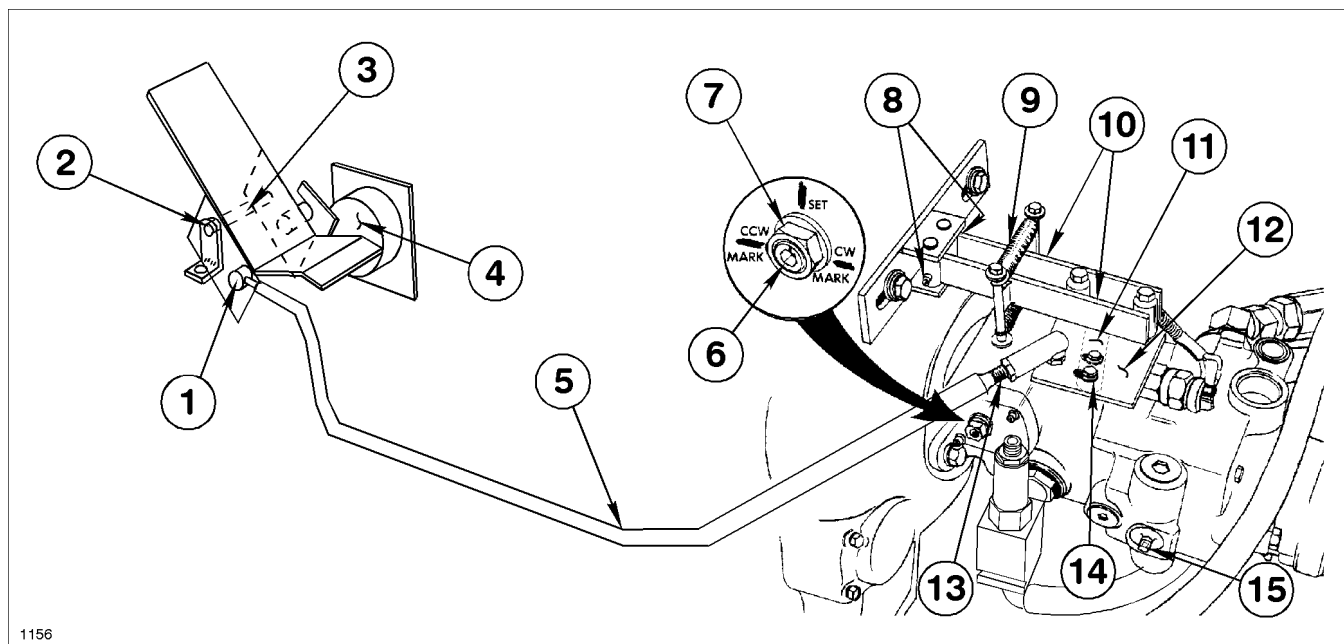

Figure 43
LINKAGE MAINTENANCE (FIG. 43)
It is very important that the foot pedal operate freely and return positively to the NEUTRAL or CENTERED position. Periodic maintenance of the traction pedal requires applying grease to the grease fittings on the linkage control arms as shown in Fig. 43.
LINKAGE TROUBLESHOOTING (FIG. 43)
TRACTION PEDAL / TRANSMISSION NEUTRAL ADJUSTMENT (Fig.43)
4. Pull both control arms away from the control plate bearings (Fig. 43). When the control plate is adjusted correctly, the control plate WILL NOT rotate when the control arms are pulled away.
7. To adjust the control plate, loosen the two control plate mounting bolts, so it allows the control plate to center itself and allows the servo control arm to move independently as shown in Fig. 43 Retighten the two control plate mount bolts and verify the proper adjustment by pulling both control arms away from the control plate bearings. The control plate SHOULD NOT ROTATE! After proper adjustment proceed to STEP 10.